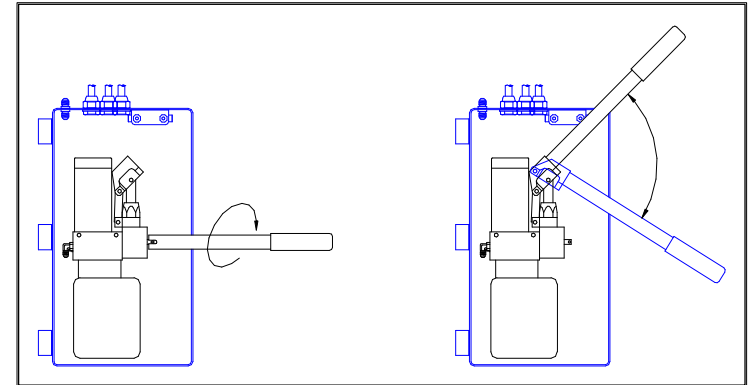

FIGURE 2-7: PLATFORM MANUAL RAISING
- Refer to **Figure 2-7**. To raise the platform, insert the pump handle extension onto the pump release valve. Make sure the notches at the end of the handle are fully engaged by the release valve pin. Twist the handle **CLOCKWISE** until lightly-snug to make sure that the pump is in the "raise mode". Insert the handle extension into pump handle socket and move the handle extension in the appropriate directions (the manual backup pump may be installed either vertically or horizontally) to raise the platform.